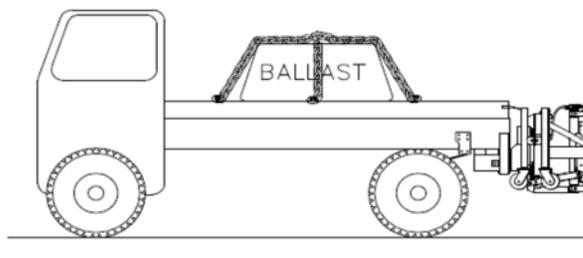

Figure 7
8. Ballast and other heavy objects **MUST BE ADEQUATELY ANCHORED** to the truck to prevent shifting during an impact (Figure 7). The force exerted on the tie-down straps could be 20 times the weight of the ballast.